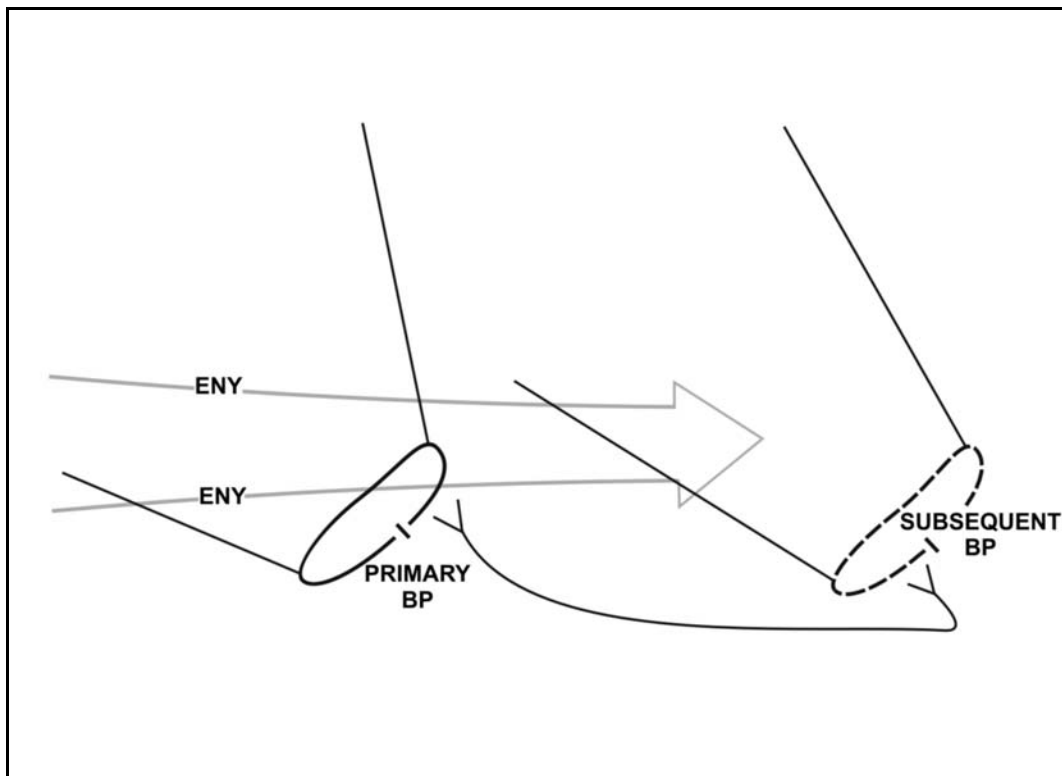

Figure D-3. Subsequent position.
d. **Subsequent Position.** The subsequent position (Figure D-3, page D-4) is a position that a unit expects to move to during the course of battle. A defending antiarmor unit may have numerous subsequent positions. These positions may also have primary, alternate, and supplementary positions associated with them.